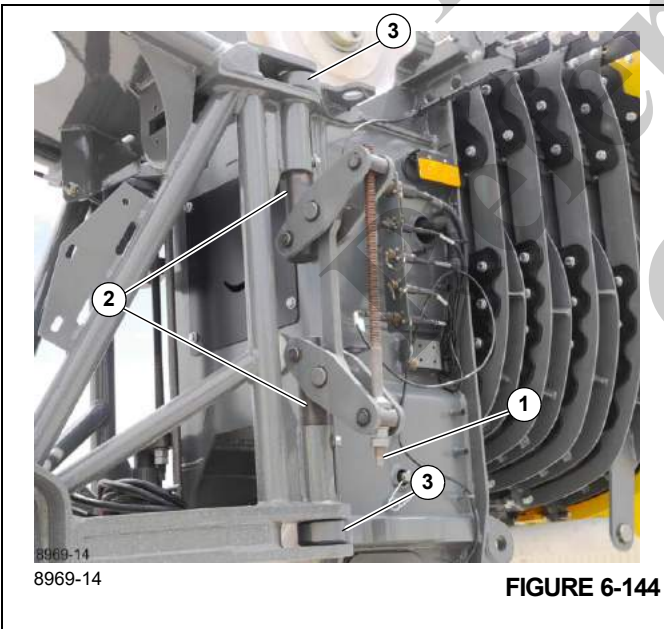

FIGURE 6-144
4. On the left side of the boom nose, use an impact driver to turn the jack screw (1), (Figure 6-144) clockwise to remove the pins (2), (Figure 6-144) from the attachment lugs (3), (Figure 6-144).